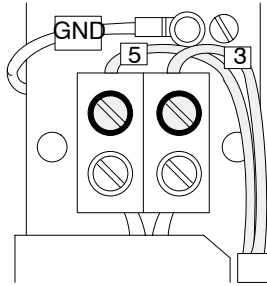

Figure 11 Connect the RTD
1. Loosen the two screws from the RTD terminal block as shown in Figure 11. Insert wires 3 and 5, extending from the hose, into the terminal block.